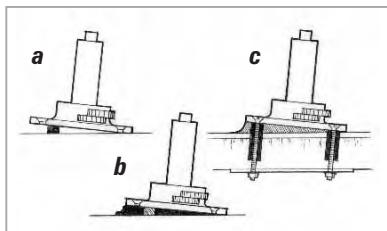

Figure 19 Support the base in position with blocking. Fill the void with thickened epoxy.
2. Bond small blocks to the substrate to support the base at the desired height and position (*e.g., winch base, Figure 19-a*).
4. Place the hardware in position, resting on the blocks (*Figure 19-b*) and install the fasteners.
5. Smooth the excess epoxy into the desired fillet shape around the base (*Figure 19-c*). Allow the epoxy to cure fully before loading. Protect exposed epoxy from UV.